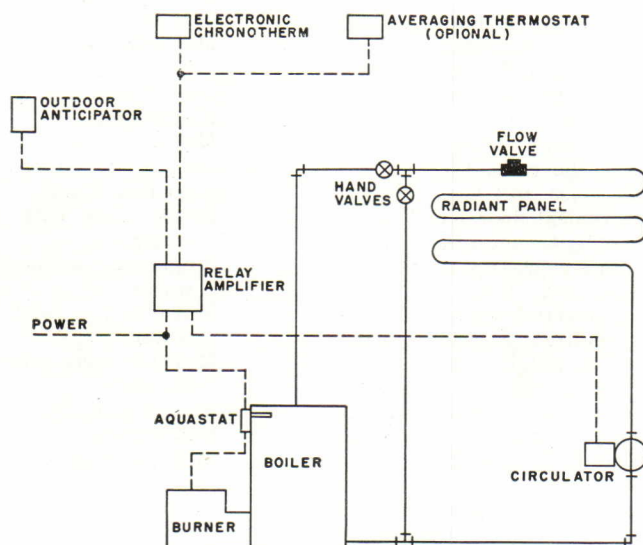

FIG. 8
Forced hot water radiant ceiling panels, as discussed before, do not offer quite all of the problems found in the floor types. The primary differences, as indicated in the schematic diagrams, Figures 8 and 9, and in the photograph in Figure 10, are the use of a clock-type thermostat and the absence of the immersion thermostat. Figure 10 shows the relay amplifier (1), outdoor anticipator (2), electronic chronotherm (3), cyler (4), and averaging thermostat (5). The use of the averaging thermostat is optional. In this application there are several possible ways to control the burner and circulator, but it is still recommended that the electronic controls cycle the circulator, and the burner be controlled by an aquastat. In this way advantage is taken of the more rapid heat transfer rate. No attempt has been made to show schematic diagrams of the systems without domestic hot water since they would be so similar to those shown for the floor panels.